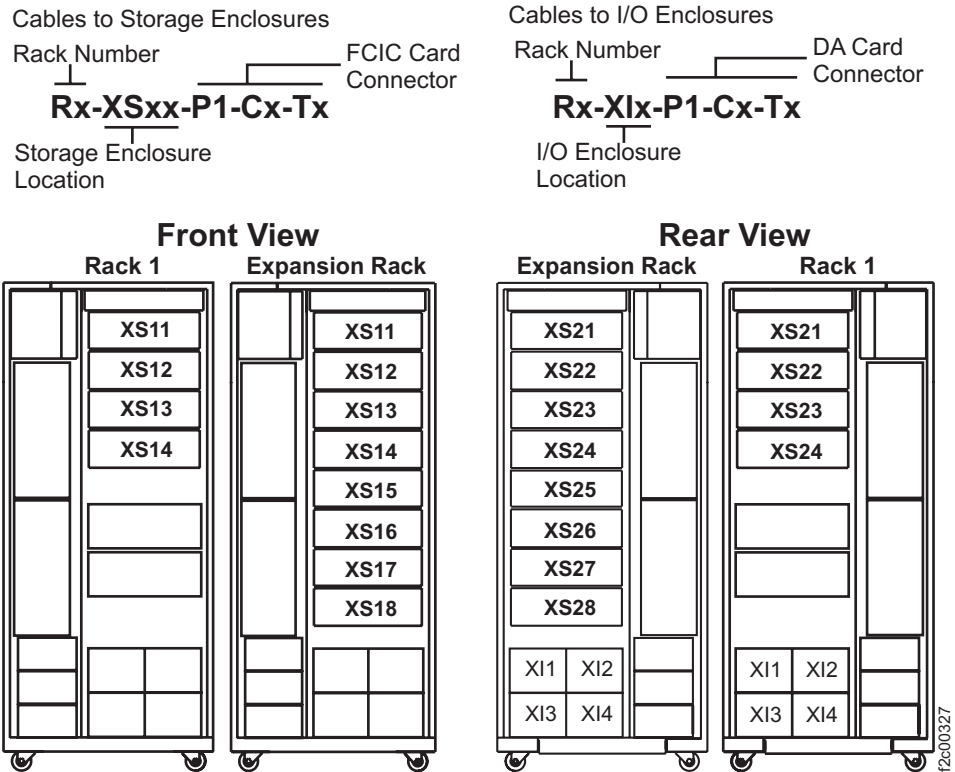

Figure 21. Cable labels, storage and I/O enclosure locations
8. The unconnected end of the FC-AL cables to be routed are coiled at the top of the rack. Check the front and rear of the rack to find them. The cable connectors have black rubber protective covers. Uncoil the cables. Locate the attached labels that identify the destination rack and storage or I/O enclosure number. Route the cables through the holes at the top of the rack to the destination rack and enclosure. Use existing cable trays and “hook and loop” fastener straps. Refer to Figure 21 on page 26 and Figure 22 on page 27.
Note: Figure 21 shows a fully configured expansion rack. Additional racks may be installed. Expansion racks may not contain I/O enclosures or be fully populated with storage enclosures.